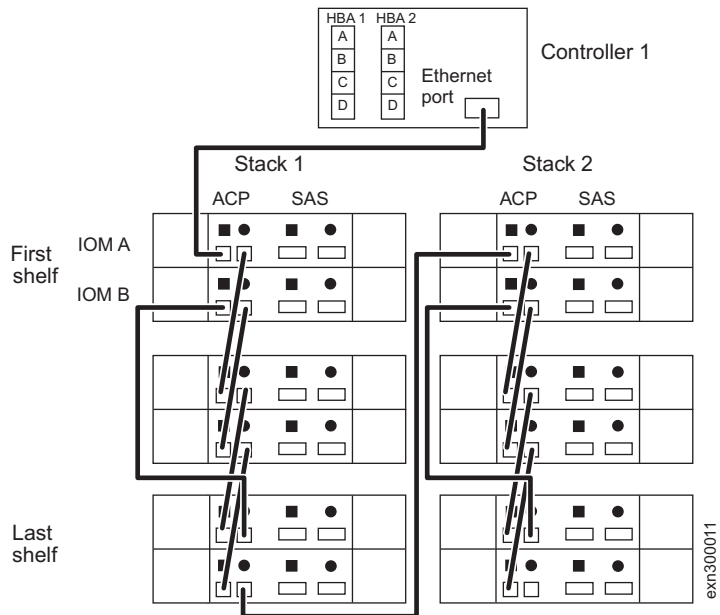

Figure 12. Cable the ACP connections
4. Cable the ACP connections as shown in Figure 12.